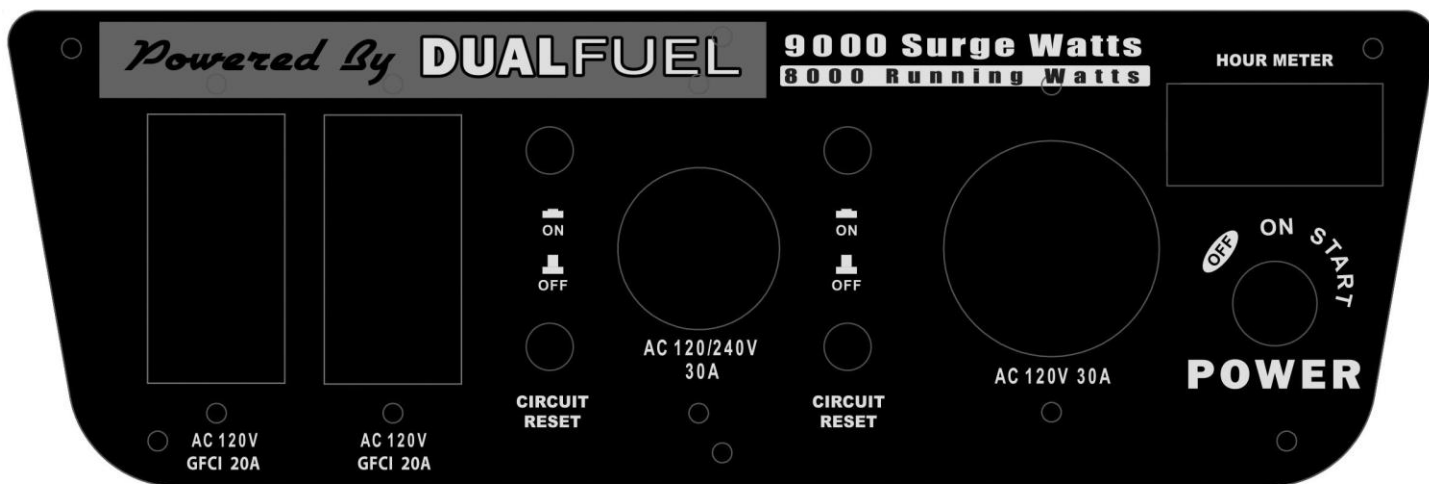

Figure 8 - Outlets available on this generator, from left to right:
**NOTE:** Plug appliances into the correct outlet. Connect standard 120 Volt, single phase, 60 Hz loads to the 120 Volt outlet. Connect 240/120Volt, single phase, 60Hz loads with a L14-30 plug only to the 240/120 Volt outlet. See Figure 8 for an illustration of these outlets.